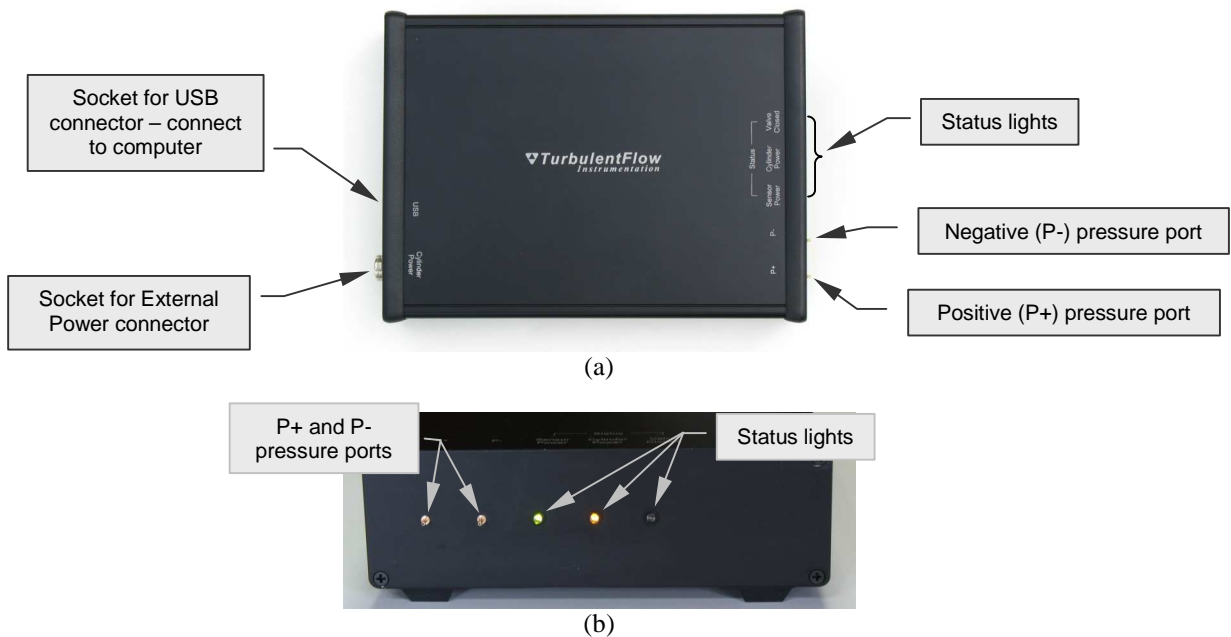

Figure 1: Pressure Calibrator main features: (a) plan view; (b) end view showing the status lights
The Pressure Calibrator is a versatile device for measuring and applying pressures with high precision. The Pressure Calibrator can be used as a reference pressure sensor and for the automated calibration of other pressure sensors. For use as a precision pressure sensor, only a USB connection to a PC is required. For operation as a pressure applicator, an external power supply is required. The Pressure Calibrator is supplied fully calibrated and ready to use, and can operate via its own software or via the *TFI Device Control* software for automated calibrations. Figure 1 shows a diagram of the Pressure Calibrator indicating its main features.
For pressure measurement, the Pressure Calibrator must be connected to a PC via a USB cable; USB is used to provide power to the pressure sensor and to transmit pressure data to the PC. When the USB cable is connected to the Calibrator and a PC that is turned on, the **Sensor Power** status light (Figure 1) will be illuminated (green). It is not required to connect the External Power connector, although pressure measurement is still possible when the Pressure Calibrator is connected to external power.
Once the USB cable has been connected to the Pressure Calibrator (Figure 1) and the computer:
2. Apply a pressure to the positive (**P+**) pressure port (see Figure 1) by connecting tubing from the measurement location to the **P+** pressure port
To apply a pressure to another pressure transducer, two electrical connections are required – the USB cable to a PC (as for **Pressure Measurement**) and the External Power cable. External power is required to operate the internal pressure cylinder that applies pressures. When the External Power cable is connected to the Calibrator, the **Cylinder Power** status light (Figure 1) will be illuminated (orange).
2. Using appropriate tubing, connect the transducer that requires the applied pressure to the positive (**P+**) pressure port (see Figure 1)
When the Calibrator is applying a pressure, the **Valve Closed** status light (Figure 1) will be illuminated (red).
- ❏ Each time the Calibrator applies a pressure, the Valve Closed status light (Figure 1) will be illuminated (red).